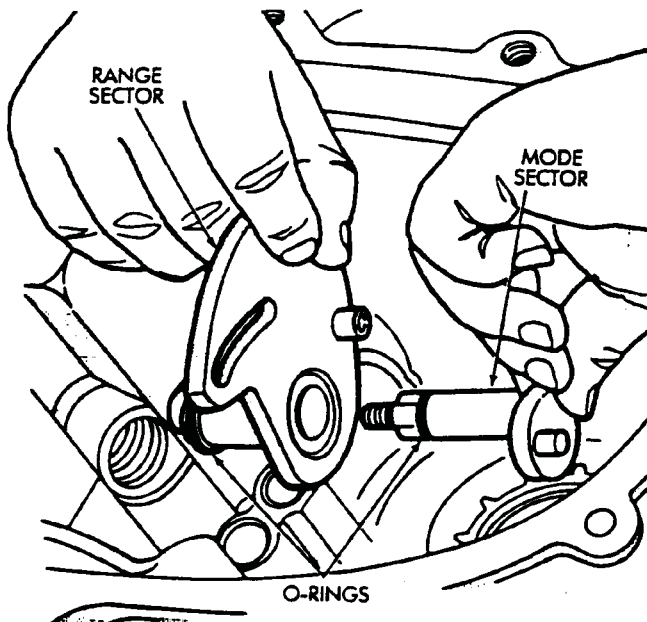

Fig. 4-42 Install Range And Mode Sectors
30. Lubricate and install new O-rings on range and mode sectors (Fig. 4-42)
31. Install the mode sector in the range sector and install the assembled sectors in the case (Fig. 4-42).